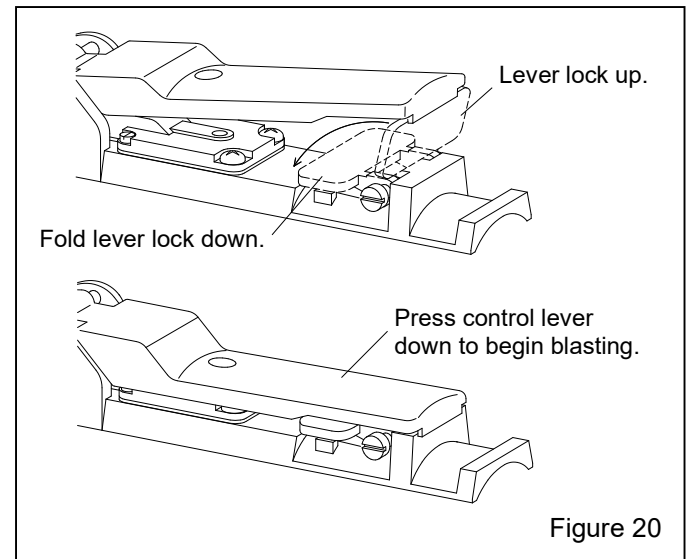

Figure 20
4.9.5 Fold down the safety lever lock and press the remote control handle, as shown in Figure 20. Be prepared for blasting to start within a few seconds.